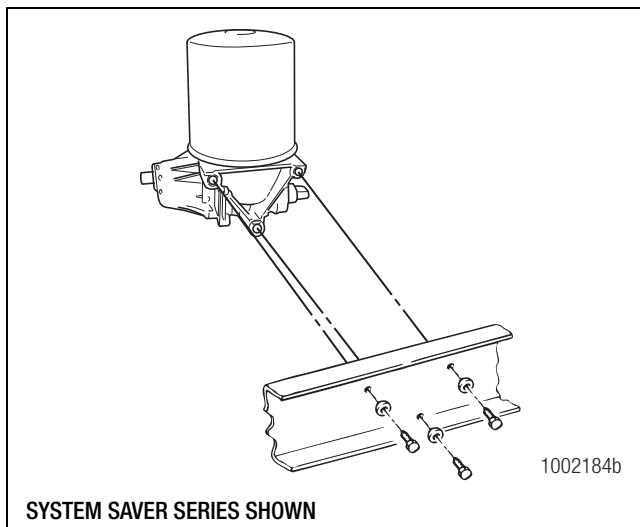
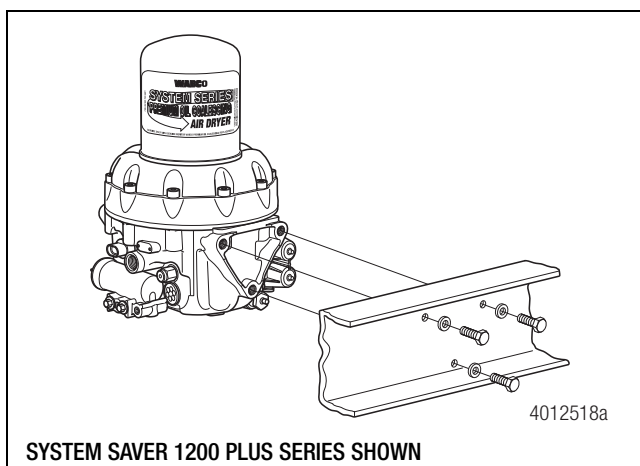

Figure 2.24
Figure 2.25
3. Remove the three mounting bolts. Remove the air dryer from its mounting location. Figure 2.24 and Figure 2.25.